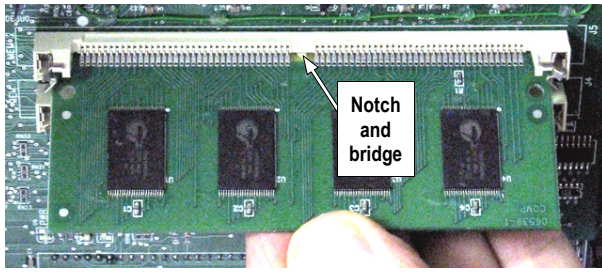

Fig. 3: Align the module.
5. **Align the Memory Module:** With the module angled to the rear of the enclosure, align the module with the socket, then completely insert the module into the socket as shown in Fig. 3, below. If you encounter any problems inserting the module, stop and verify the **notch** and the plastic **bridge** are properly aligned. **NEVER** force the Memory Module into the socket; if excess force is used, damage to both the module and the motherboard socket could result.